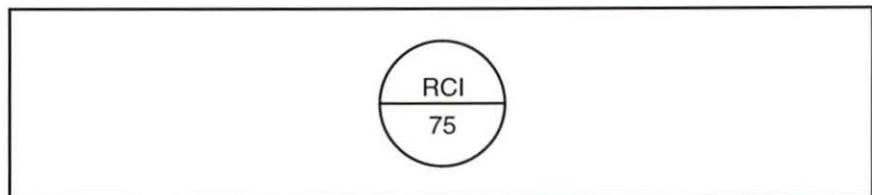

Figure 46. Instrument Tag
4. Determine the measured variable indicated in the instrument tag in figure 46.